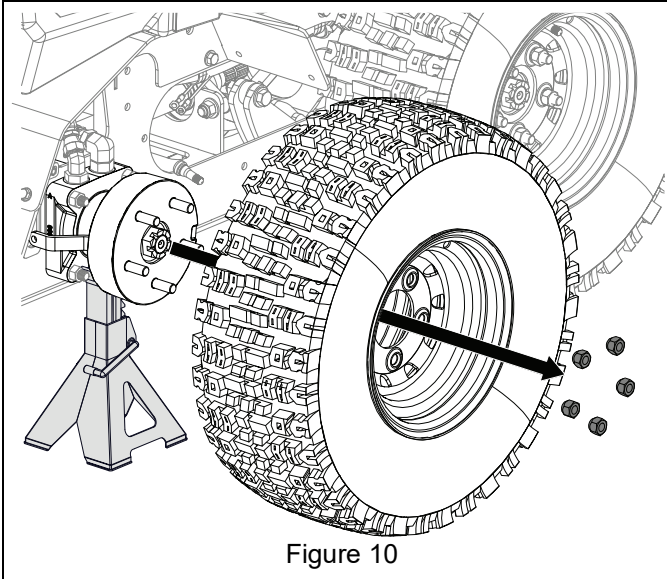

Figure 10
See Figure 10.
4. Remove and retain five hex bolts and flat washers securing brine tank to tractor. Remove and retain brine tank. See Figure 10.
5. Locate controller harness (item 1c) and accessory harness (item 1d) in harness kit. Connect accessory harness to controller harness. See Figure 10.